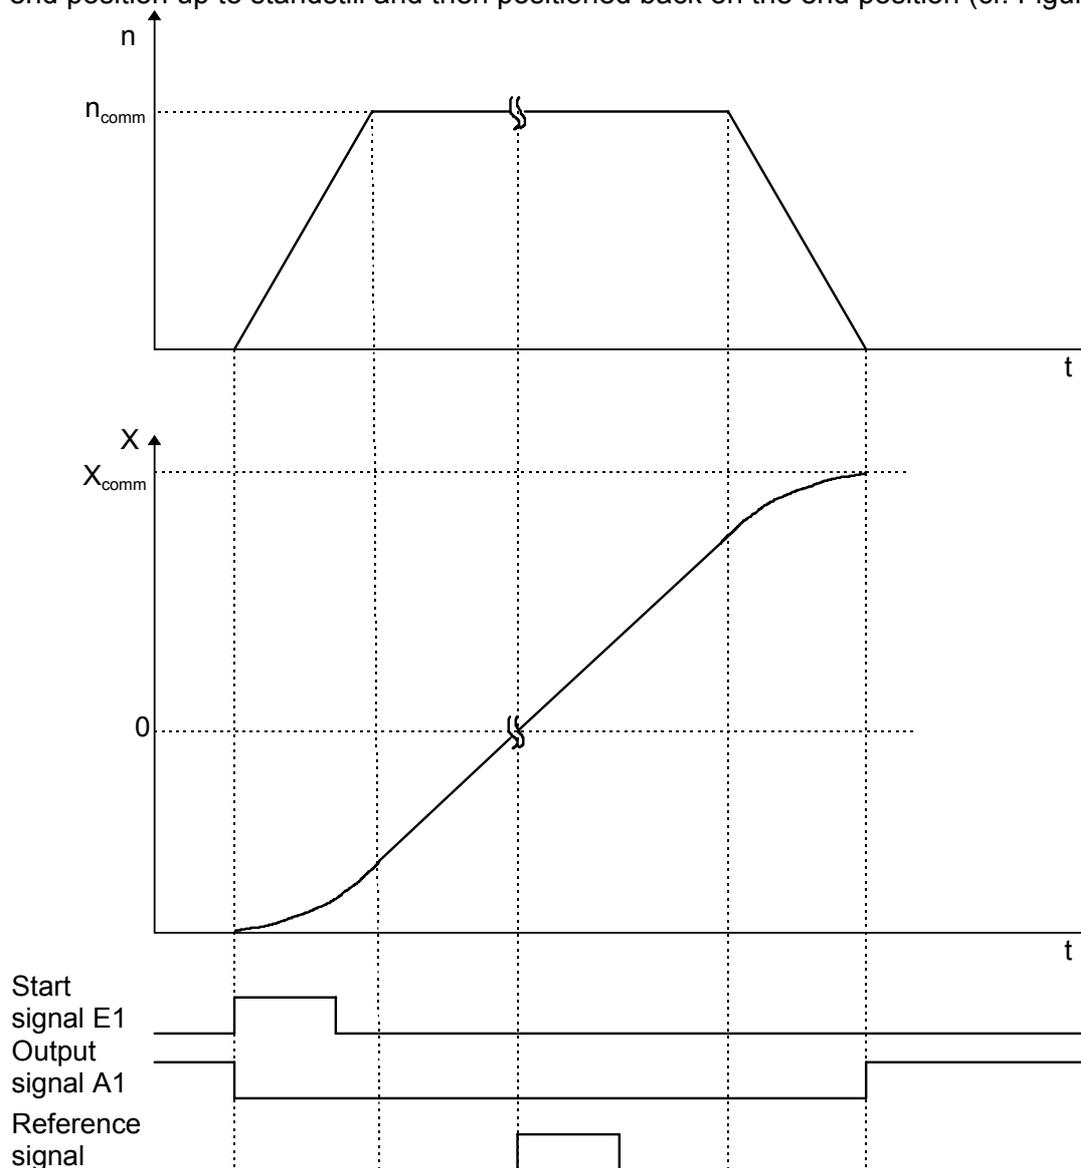
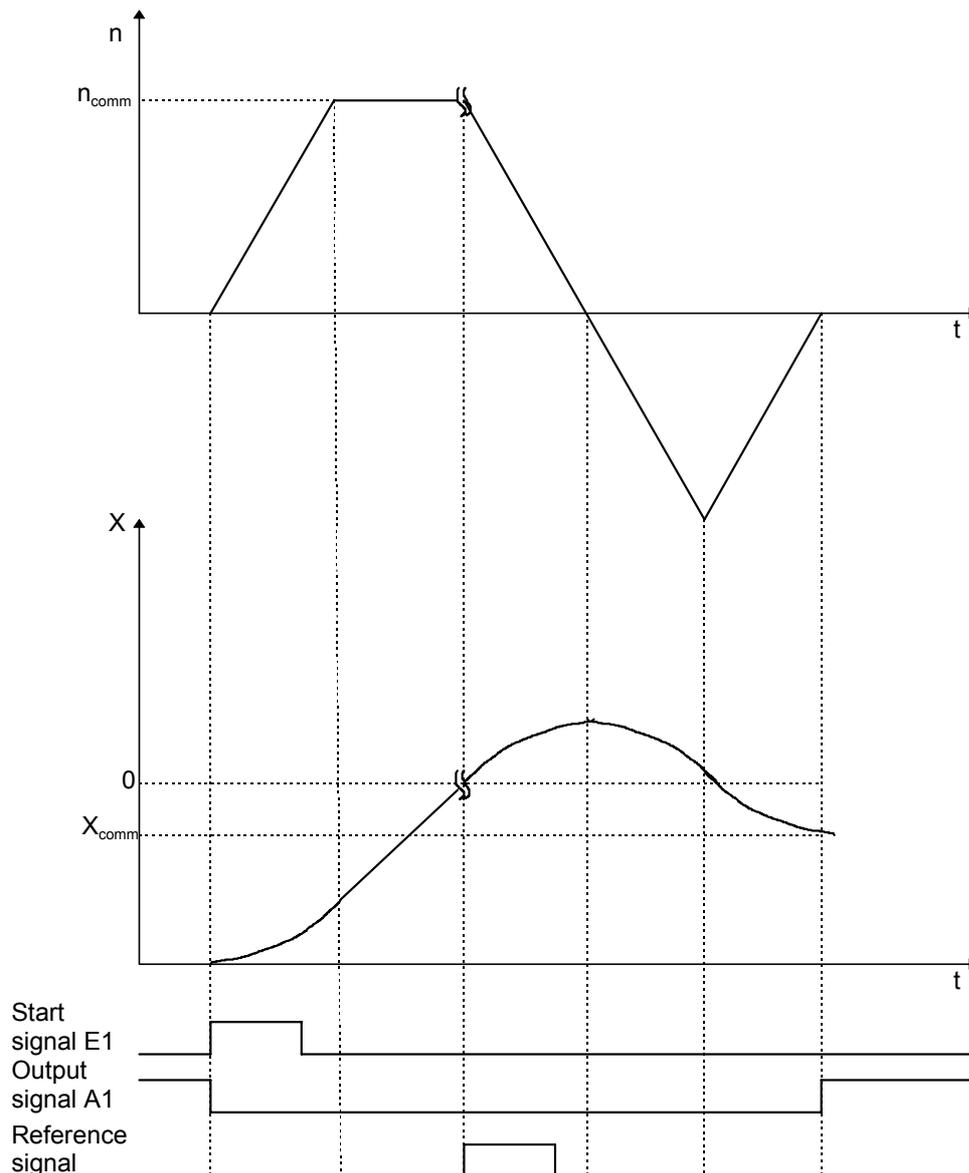
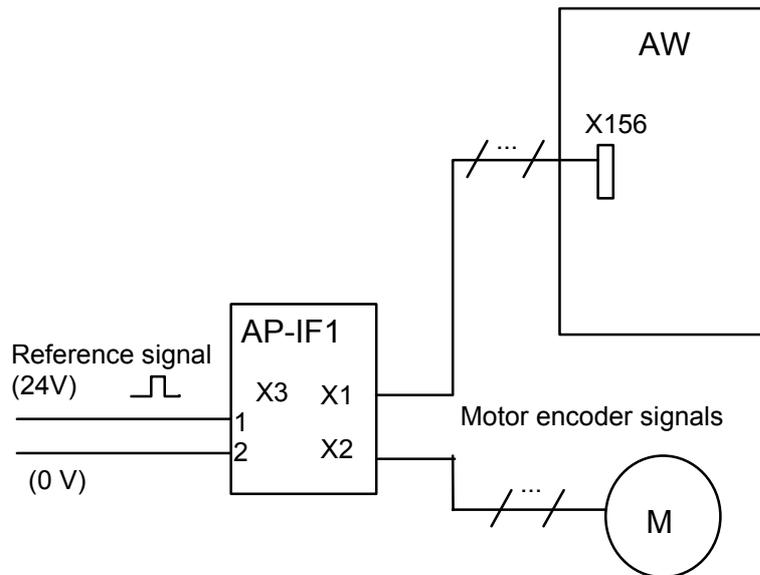

Figure 45: Course of "Substitutional positioning" without direction reversal
Figure 46: Course of "Substitutional positioning" with direction reversal
Figure 47: Connection of the reference signal to an AW
In the "Substitutional positioning" operating mode a type of homing cycle is performed for a drive according to the following Figure 45 and Figure 46. In this case the drive is initially accelerated to a defined speed n_{comm} . The approach direction is defined by the sign of the speed parameter. After running over the reference signal, the position feedback value system of the drive is zeroed and the drive is positioned at a defined position command value. The reference sign to be processed must be fed into the inverter module as zero pulse (cf. Figure 47). If the distance defined as position command value is either shorter than the distance resulting from the braking ramp or opposite to the current direction of travel, then a distinction is made between two versions (cf. Section 3.12.3). Either the drive can be stopped at the defined end position without observation of the brake ramp or it is driven through the end position up to standstill and then positioned back on the end position (cf. Figure 46).
- The reference signal must be fed into the inverter module (AW) according to Figure 47.